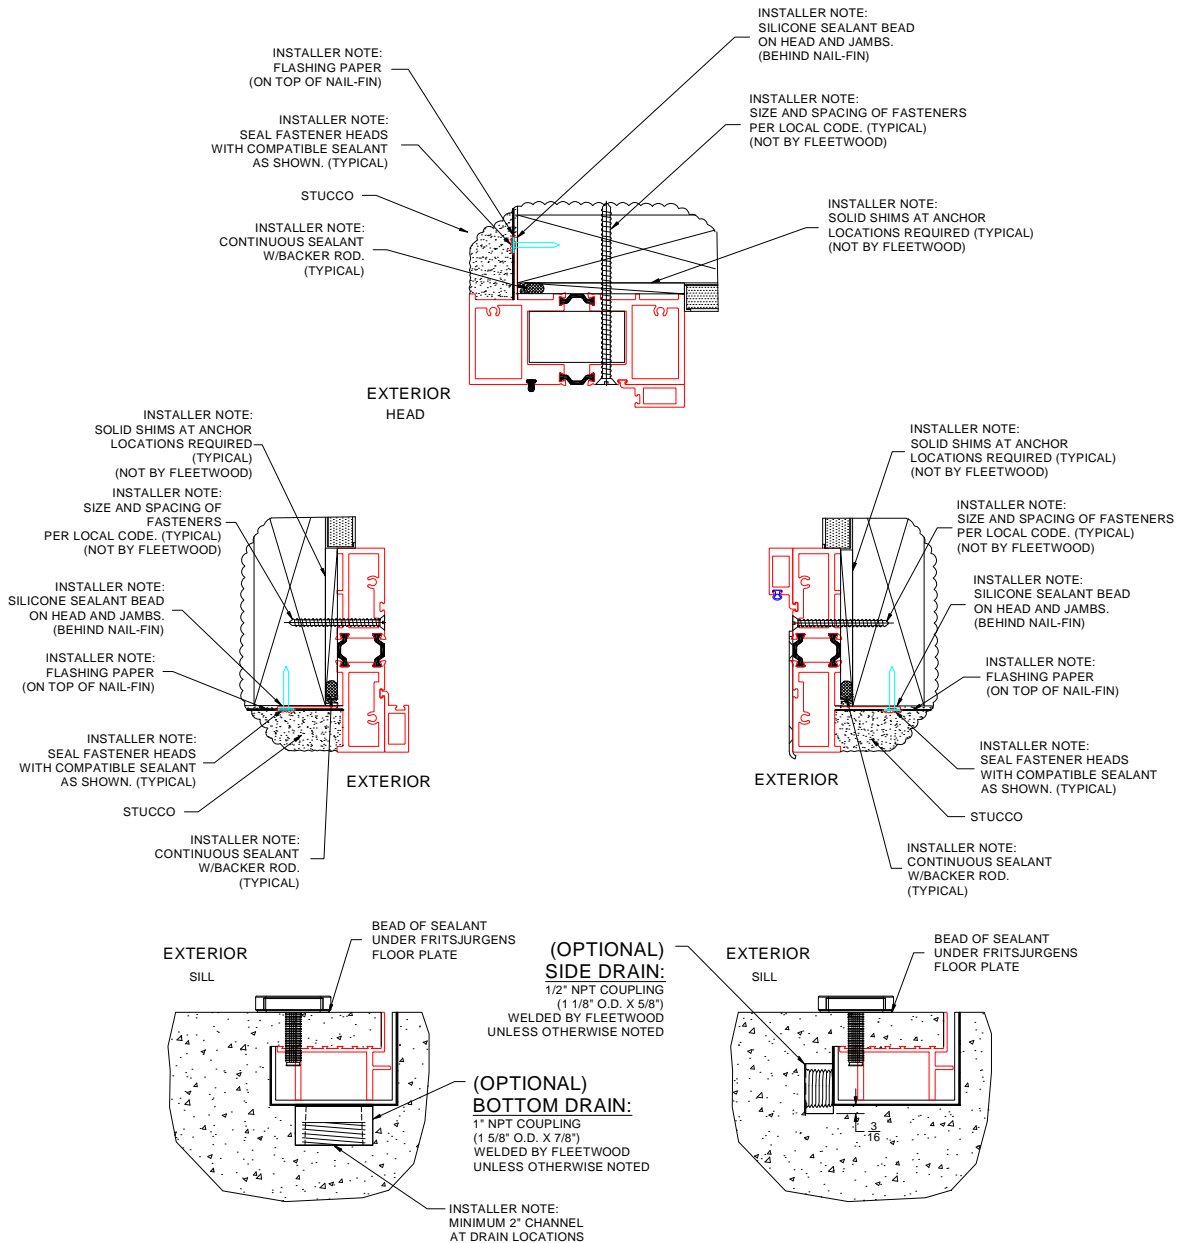

Figure 7:
9. To complete the installation, apply backer rod and a complete bed of sealant to the entire exterior and interior joint between the frame and the building structure. Tool the sealant to eliminate bubbles, voids and / or breaks and ensure a completely watertight seal (Figure 7,8).